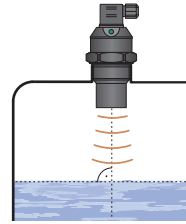

Fig. 1: Correct installation of the sensor, perpendicular to the liquid surface
- a) The device is installed in a vertical position into the upper lid of the tank or reservoir using a lug, a fastening nut or a flange in such a way that the axis of the device is perpendicular to the surface level of the measured liquid (Fig. 1). Tightening of the level meter in the welding flange (or. by the fixing nut) is done by hand *. The device shall be installed in places with no risk of **mechanical damage to the front of the sensor**.